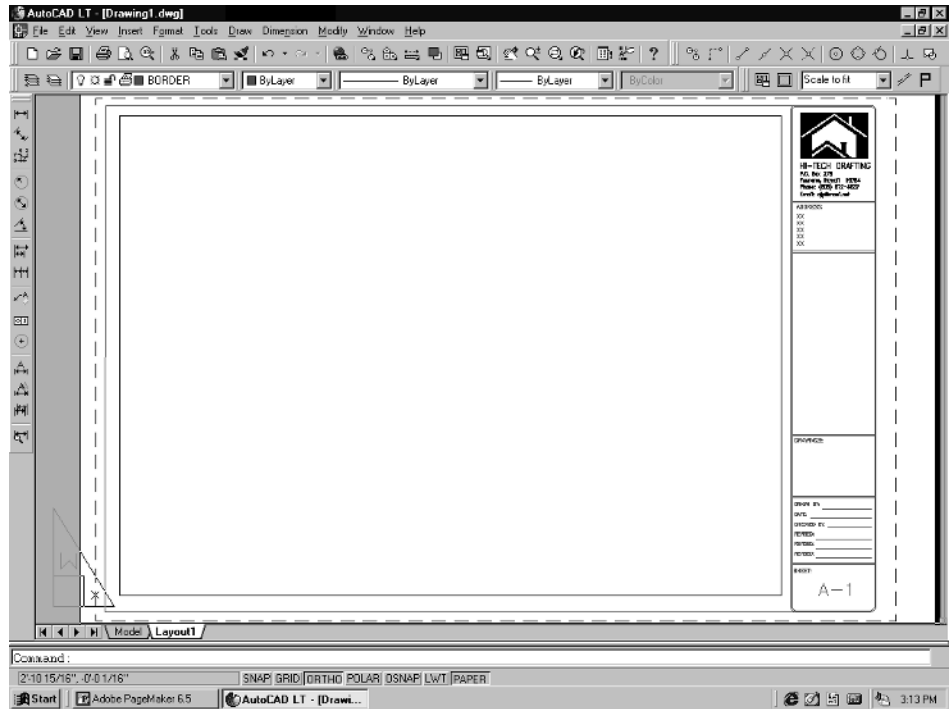

Figure 4-67
1. First start a new drawing using the 24"x36" template file that you customized. It should be in paper space (triangular icon in the lower left corner) and should be just an empty border. See Figure 4-67.